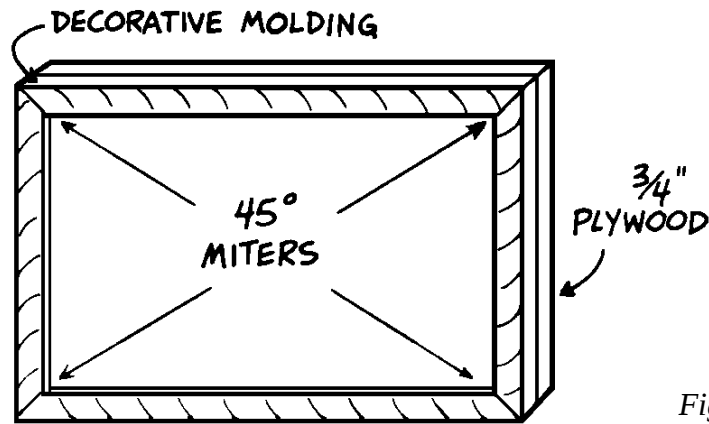

Figure 1
3. Use a pencil to mark the outer perimeter of the scrap wood onto the plywood. To form the plywood base (A) of the project, carefully cut out the marked rectangle.
4. Cut four pieces of $\frac{3}{4}$ "-wide decorative molding to fit exactly around the perimeter of the upper face of the base (A), mitering the corners of the molding as shown in *Figure 1*. Check to see that the tiled design will fit exactly inside the decorative molding that you have cut—now is the time to make any necessary adjustments.
5. Glue the mitered decorative molding to the upper face of the base (A) and secure it with small wire brads. Use a tack tamer to insert the brads and recess them into the molding with a nail set.